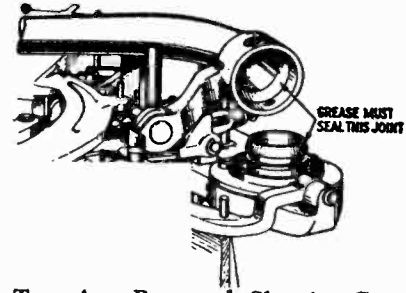

Fig. 19—Tone Arm Removed, Showing Grease Seal
3. Distribute firm cup grease around the two surfaces as shown in Fig. 19.